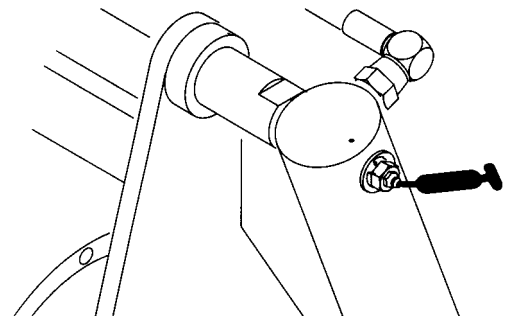

Figure 5
The lubrication points are: Cylinder pivot-upper (2) (Fig. 5); Cylinder pivot-lower (2), stabilizer bar (4), trailing arm (4), finger plate pivot linkage (4) (Fig. 6); Gear box support tube (1), stomper assy. (4), gear box couplings (2) (Fig. 7); castor wheel bearings and pivot shaft mount (4), trailing arm (2), roller (2) (Fig. 8); Trunnion adjuster (2) (Fig. 9) and Drive line (5) (Fig. 10).